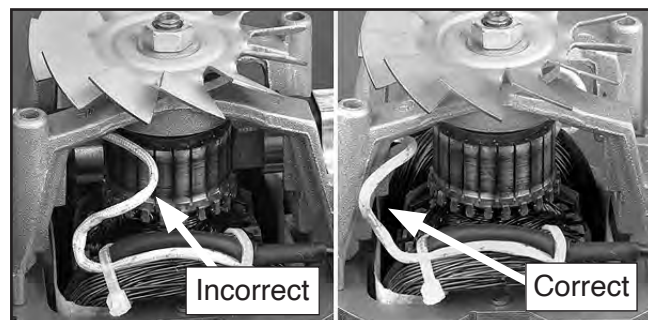

Figure 37. Safe power wire routing.
13. When brush housings are installed, make sure to route brush power wires well away from commutator, as shown in **Figure 37**, or commutator will wear into wire, causing an electrical short.